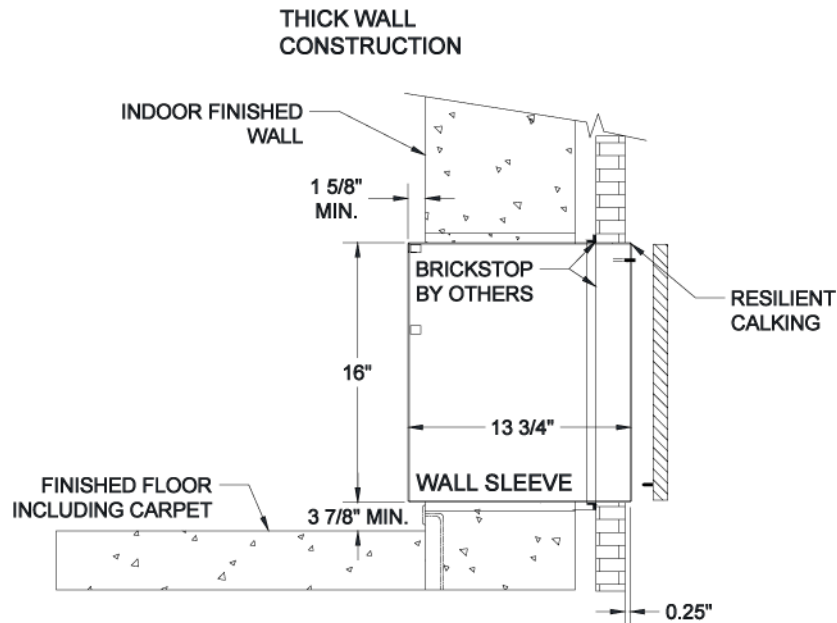

Figure 2
3. Place a thin pad of mortar on the bottom of the opening. **IMPORTANT:** Make certain the wall sleeve protrudes into the room a minimum of 1 3/8" (35mm) beyond the finished wall surface to accommodate the heat section and room cabinet. Push the sleeve through the wall opening so that a minimum of 1/4" (6mm) projects past the outside wall. This will provide a fillet area for caulking (refer to figure 2)
4. If a brick stop is employed (By others) slide the wall sleeve into the wall so that it extends into the room a minimum of 1 3/8" (35mm) beyond the finished interior wall surface. This allows room to attach the heat section and room cabinet. It should also allow for a minimum of 1/4" (6mm) to project past the outside wall. This will provide a fillet area for caulking (refer to figure 2).